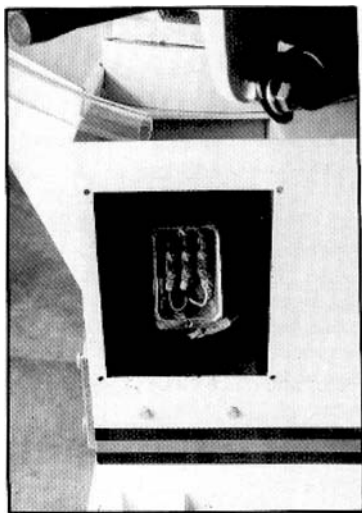

Figure 4
- **Coolant Pump** – Remove access panel on right side of saw, remove junction box cover on pump, and follow diagram inside junction box cover. See Figure 4.